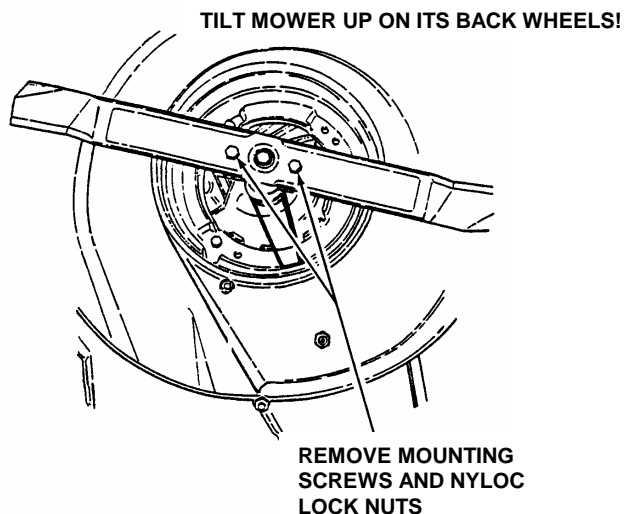

FIGURE 3.2
3. Check torque of blade retaining cap screw. Recommended torque should be 30 to 40 ft. lbs. See Figure 3.2.